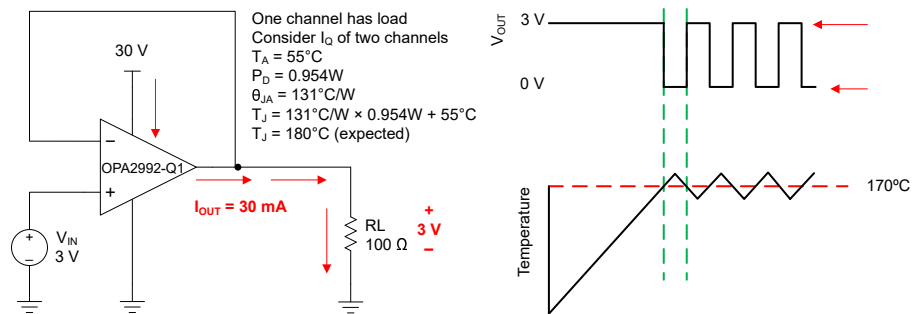

图 7-4. Thermal Protection
The internal power dissipation of any amplifier causes the internal (junction) temperature to rise. This phenomenon is called *self heating*. The absolute maximum junction temperature of the OPAx992-Q1 is 150°C. Exceeding this temperature causes damage to the device. The OPAx992-Q1 has a thermal protection feature that reduces damage from self heating. The protection works by monitoring the temperature of the device and turning off the op amp output drive for temperatures above 170°C. 图 7-4 shows an application example for the OPA2992-Q1 that has significant self heating because of the power dissipation (0.954 W). In this example, both channels have a quiescent power dissipation while one of the channels has a significant load. Thermal calculations indicate that for an ambient temperature of 55°C, the device junction temperature reaches 180°C. The actual device, however, turns off the output drive to recover towards a safe junction temperature. 图 7-4 shows how the circuit behaves during thermal protection. During normal operation, the device acts as a buffer so the output is 3 V. When self heating causes the device junction temperature to increase above the internal limit, the thermal protection forces the output to a high-impedance state and the output is pulled to ground through resistor R_L . If the condition that caused excessive power dissipation is not removed, then the amplifier oscillates between a shutdown and enabled state until the output fault is corrected. Please note that thermal performance can vary greatly depending on the package selected and the PCB layout design. This example uses the thermal performance of the SOIC (8) package.